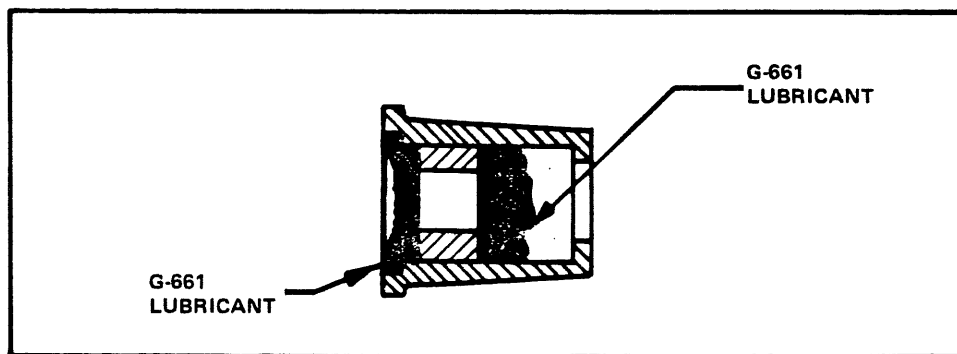

Figure. 28. Lubrication of ZERO REFERENCE knob.
STEP 28. Installation of the ZERO REFERENCE knob and the zero reference CHECK pushbutton (see Figures 28 and 29).
- (1) 1502/1503 TPN 366-1334-00, MPL Item 2-4 (same as FINE POSITION knob).
- (1) Apply G-661 lubricant to the ZERO REFERENCE knob as shown in Figure 28.